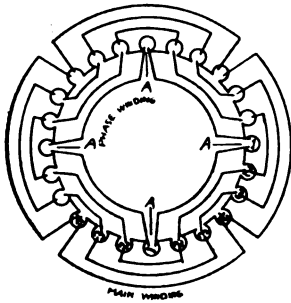

Fig. 7. Stator Winding
Fig. 7 gives a diagram of the winding. The main winding consisting of four poles, $2\frac{1}{2}$ coils per pole is wound first. Each coil contains 94 turns of No. 23 enameled wire making a total of 235 turns per pole. Enameled wire must be used, as the proper number of turns cannot possibly be put in the slots if cotton covered wire is used.
The slots (A) spaced 90 degrees apart around the stator will be the centers of the poles. Referring to Fig. 7, number this slot (1), the two adjacent slots (2), the next slots adjacent to these (3), and finally the next slots (4). The main coils of each pole start in slots (2), in which 94 turns are wound, continue in slots (3) also containing 94 turns and expand further into slots (4), which contain only half as many or 47 turns. The slots (4) contain a half coil from adjacent poles. Where the succeeding coils overlap on the ends of the core, separate them by two layers of empire cloth. When the coils are wound, tie the three coils of each pole together in the center with a piece of friction tape.
The phase winding consists of $2\frac{1}{2}$ coils per pole of 30 turns per coil of No. 28 enameled wire, making a total of 75 per pole. The phase winding starts with 30 turns in slots (3) on top of the main winding, expands to slots (2) which also contain 30 turns, finally expanding to slots (1) containing one-half coil or fifteen turns. The diagram, Fig. 7, will be useful for reference while winding the stator.